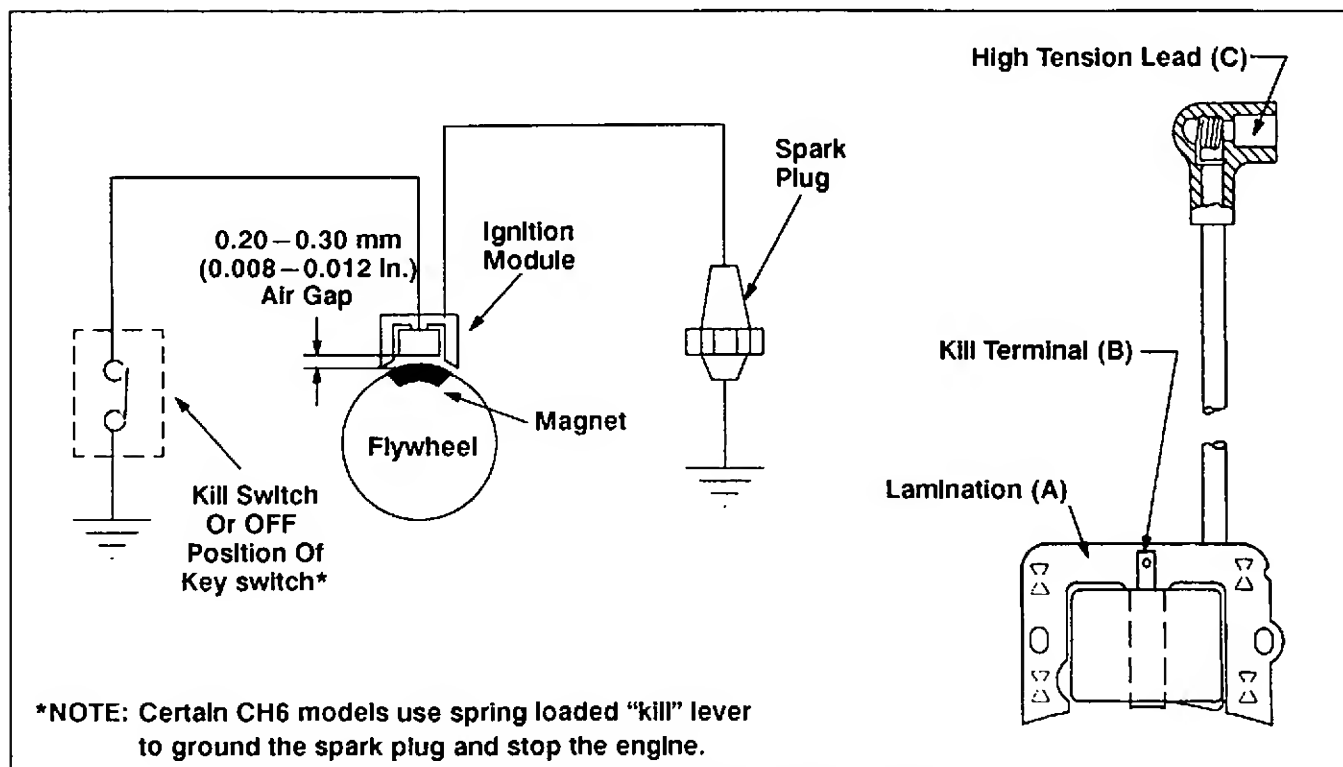

Figure 8-2. Electronic Magneto Ignition System.
4. Measure the resistance of module secondary using an ohmmeter (see Figures 8-2 and 8-3): <p>Connect one ohmmeter lead to laminations (A). Connect the other lead to the spark plug terminal of high-tension lead (C). With the ohmmeter leads connected in this manner, the resistance of secondary should be 7,900 to 10,850 ohms.</p> <p>NOTE: This test cannot be performed unless module has been fired at least once.</p>	<p>If the resistance is low or 0 ohms, the module secondary is shorted. Replace the module.</p> <p>If the resistance is high or infinity ohms, the module secondary is open. Replace the module.</p> <p>If the resistance is within the specified range, the module secondary is OK.</p>